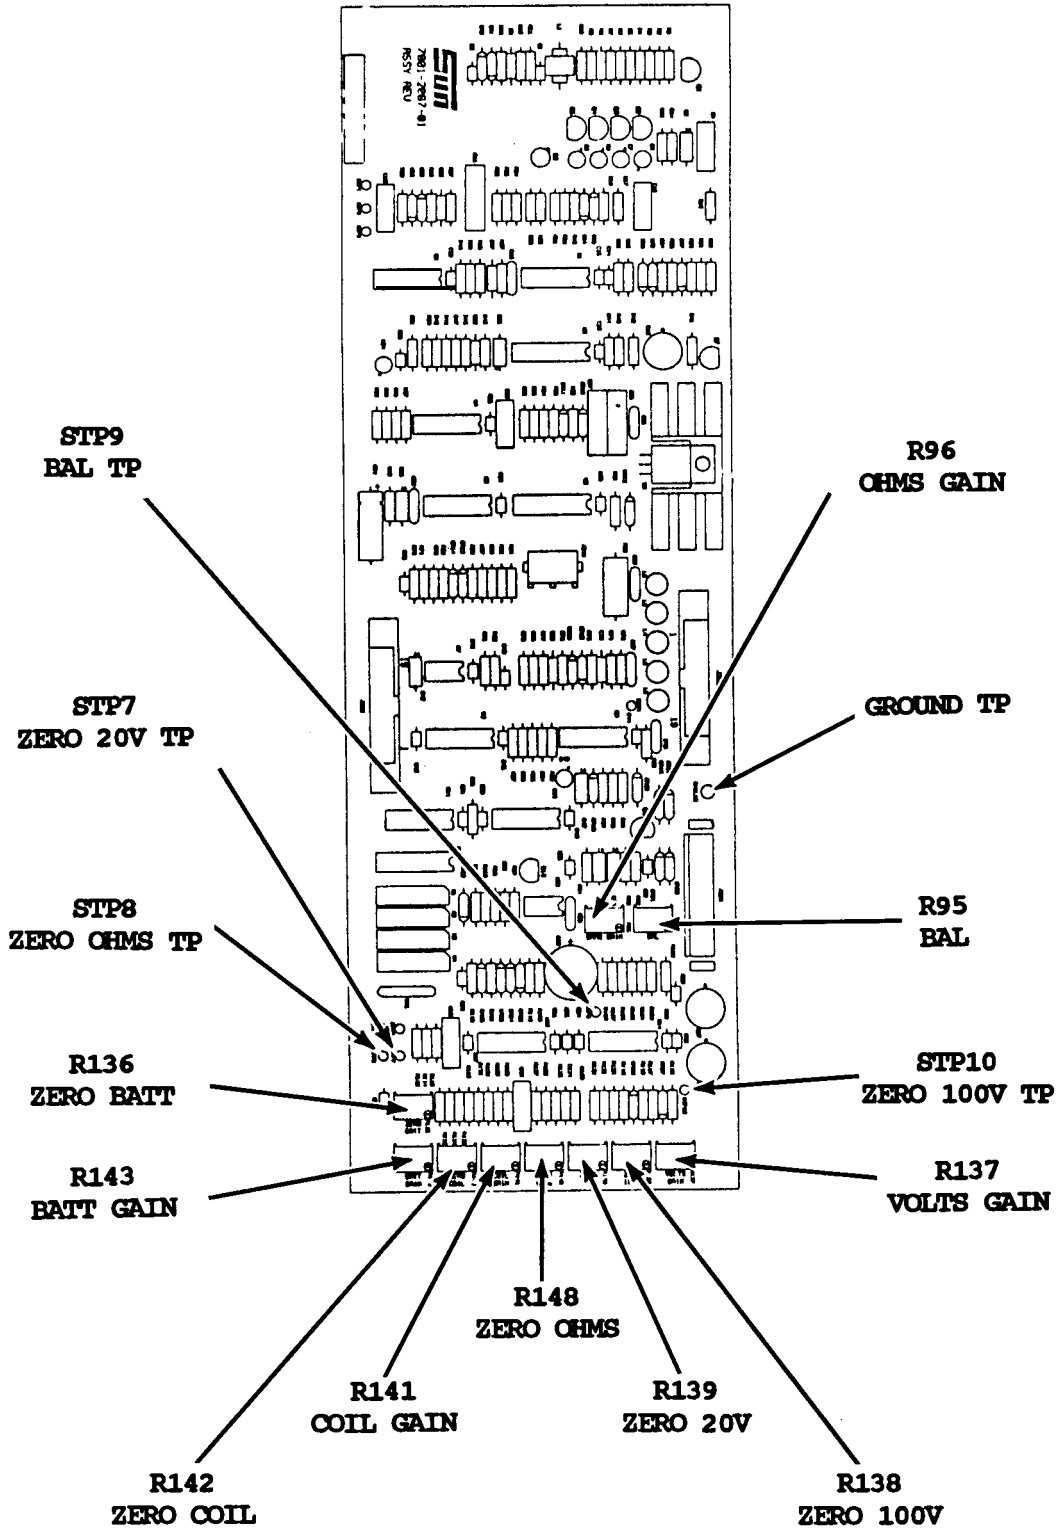

FIGURE 6-5
SERIAL "C" OR LATER (Refer to Figure 6-5) on Page 6-15**
- C. Refer to Figure 6-5, Page 6-15 for Mag/Volt/Ohm board, #7001-2087-01, for the locations and descriptions of Test Points and Pot Adjustments as outlined in this procedure.
(Refer to Figure 6-5)**
- c. *Refer to Figure 6-5, Page 6-21 for Mag/Volt/Ohm board, #7001E9311-15, for the locations and descriptions of Test Points and Pot Adjustments as outlined in this procedure.*